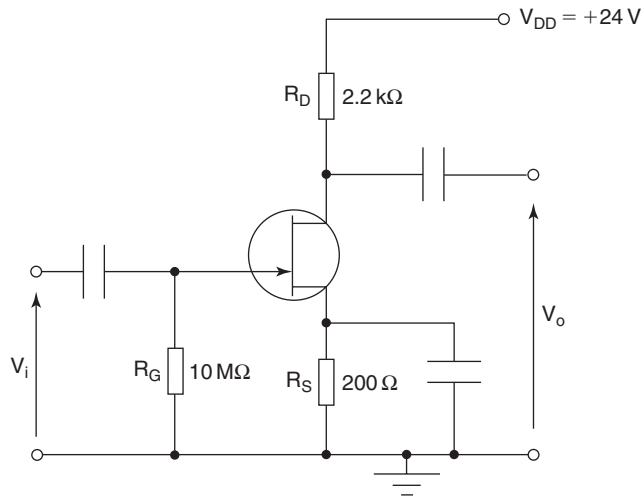

Fig. 34
- Q** The FET used in the amplifier circuit of Fig. 34 has characteristics as given in Table 1. Using this data: